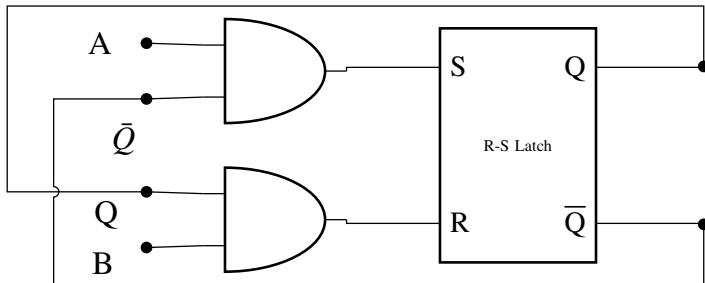

Fig. 3.29
46. The two inputs A and B are connected to an R-S latch via two AND gates as shown in Fig. 3.29. If $A = 1$ and $B = 0$, the output $Q\bar{Q}$ is